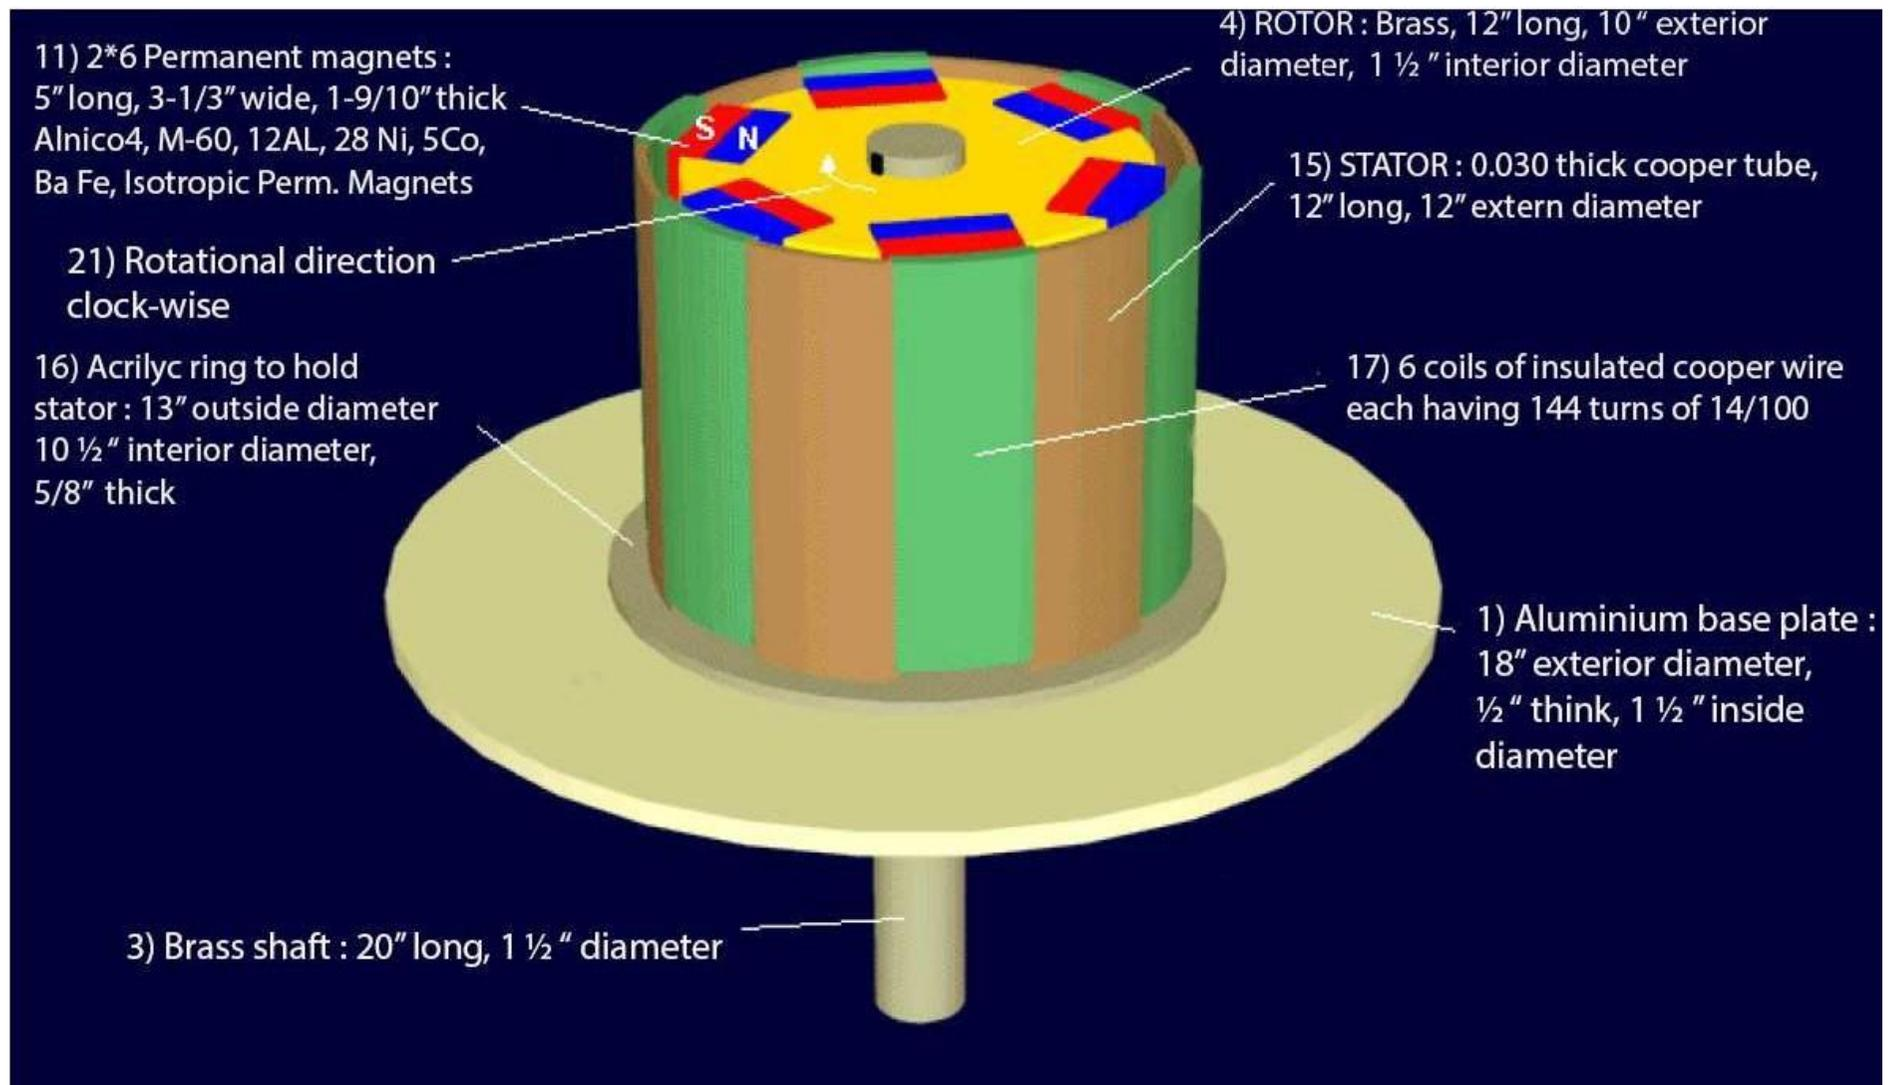
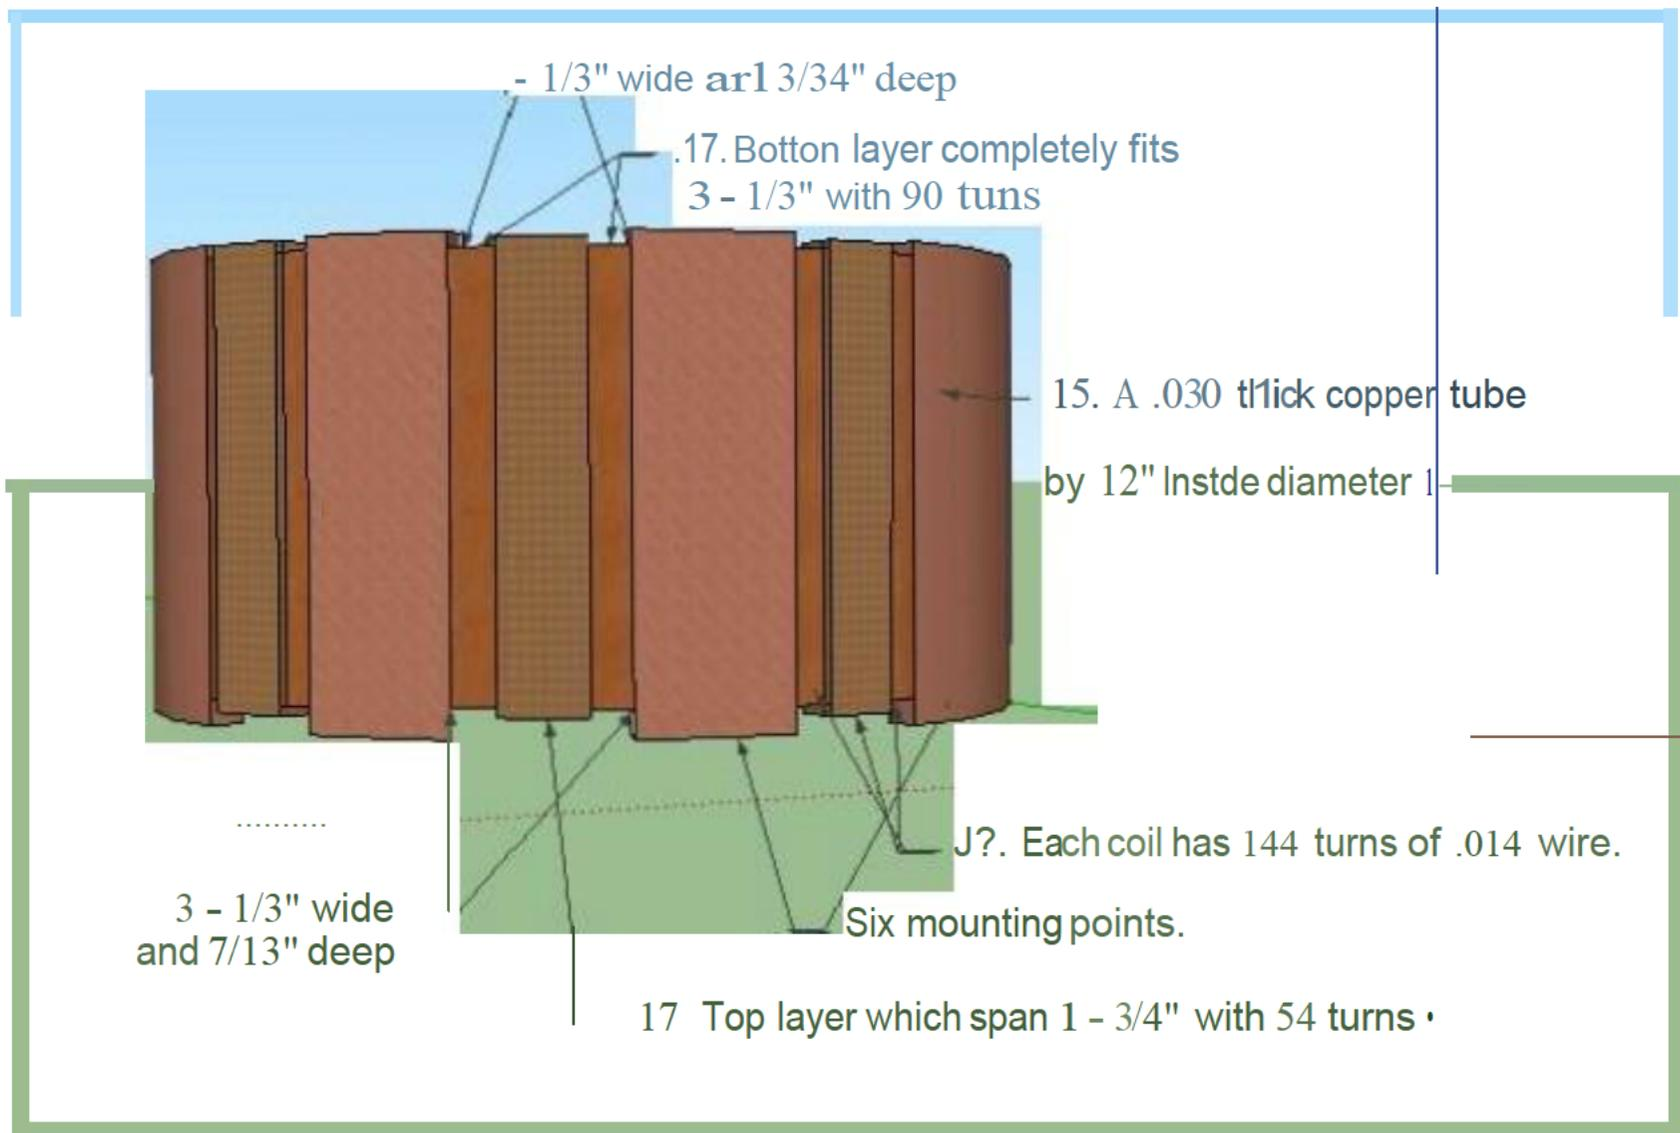

Figure 10.
Figure 11.
15) You'll next need a copper tube. It is 0.3" thick, 12" long and has a diameter of 12" on the inside diameter. Six slots are then cut at the top of this tube. These slots are found to have a width of $3\frac{1}{3}$ " and $\frac{3}{34}$ " deep, spaced at 60 degrees from each other. You can then repeat the same process over again at the bottom. These slots are found to have a width of $3\frac{1}{3}$ " and $\frac{7}{13}$ " deep. However, these slots have to be aligned with the upper ones and both of them should correspond to each magnet. In Figure 10 will see 6 mounting points (Figure 11).